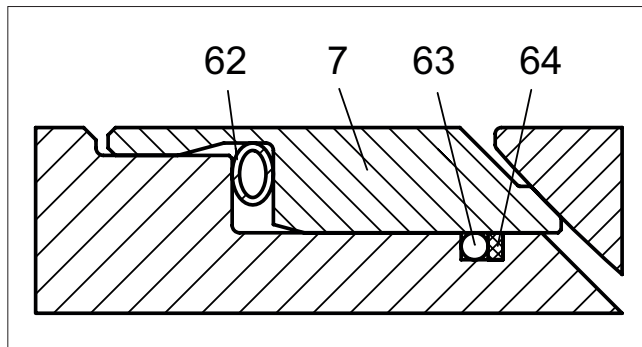

Fig. 8 T and S seats
- Place the back seals (63) into their position to the body grooves. See Figure 8.
- Place the back-up rings (64) made of PTFE strips at the side of the O-ring. To ensure that the seam becomes flexible, the strip must have slanted ends.
- Place the spring (62) into the groove in the seat (7). Connect the ends of the spring.